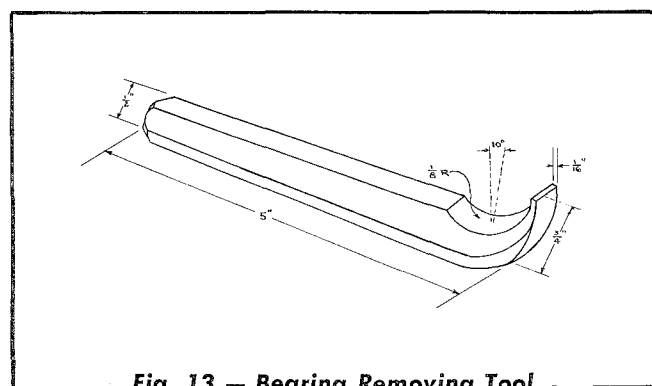

Fig. 13 — Bearing Removing Tool
8. Check the condition of the roller bearings and replace if necessary. Using a tool similar to the one shown in Fig. 13, insert the end of the tool under the bearing(s) and tap the tool with a hammer until the bearing(s) is raised sufficiently so that a suitable bearing puller tool may be used to remove the bearing(s).